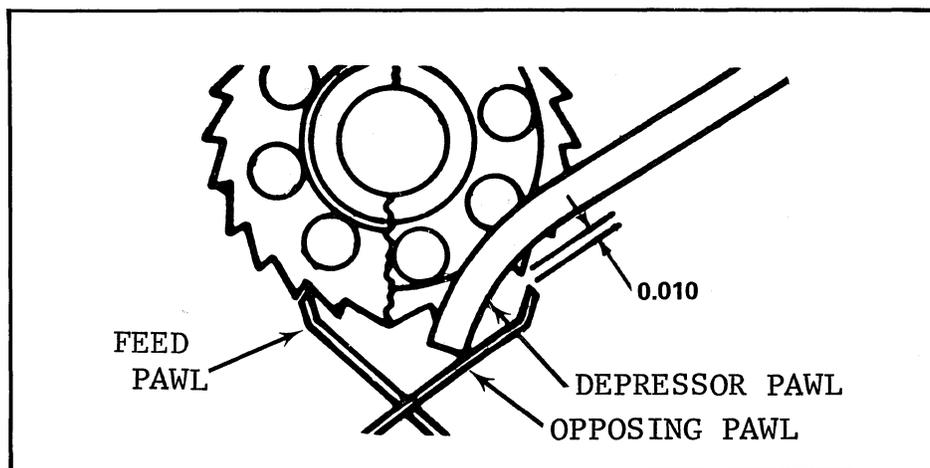

Figure 6-9 Depressor Adjustment
- (1) The pawl depressor operates the opposing pawl out of engagement during energization of the armature so that the ratchet can rotate during de-energization. See Figure 6-9. The tip of the opposing pawl should clear the ratchet by approximately 0.010 and re-engage after the first third of the tooth is passed the tip of the pawl during the rotation of the sprocket shaft assembly. Use 0.010" flat gauge and two benders (see Table 7-1).